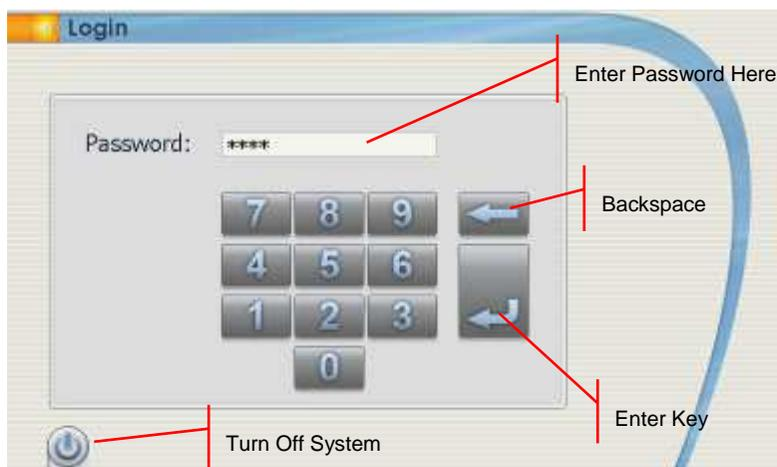

Figure 34: Login Screen
5. When the introduction is finished you will be automatically directed to the login screen (Figure 34). Using the number pad, enter your password and press enter (default is 123456).